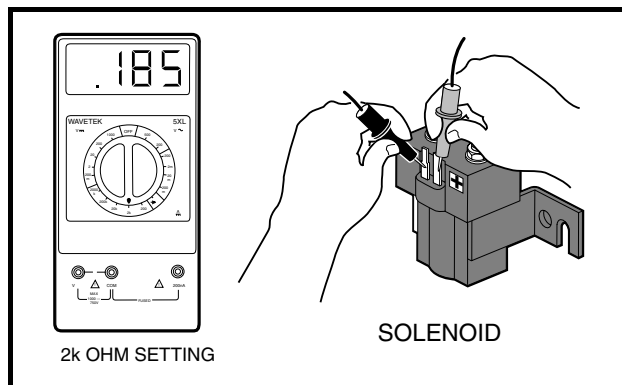

Figure 11-10 Activating Coil Test
3. Place red (+) probe of the multimeter on the positive (+) solenoid terminal. Place the black (–) probe on the other small solenoid terminal. A reading of 180 to 190 ohms should be obtained (**Figure 11-10**). If not, replace the solenoid.